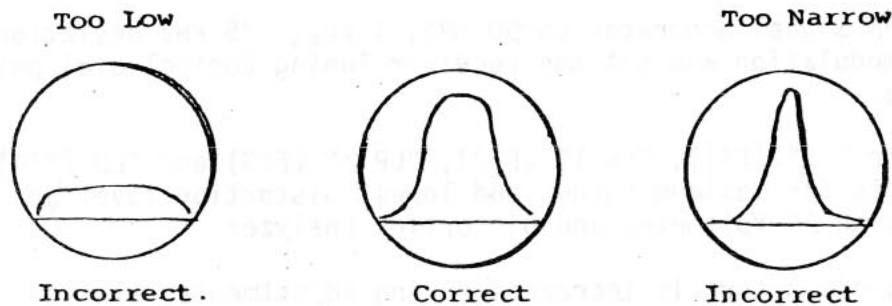

Figure 3. Correct IF Oscilloscope Waveshape.
6. Adjust the "IF" adjustment on top of Tuner Unit for highest, widest and round top response as shown in Figure 3.